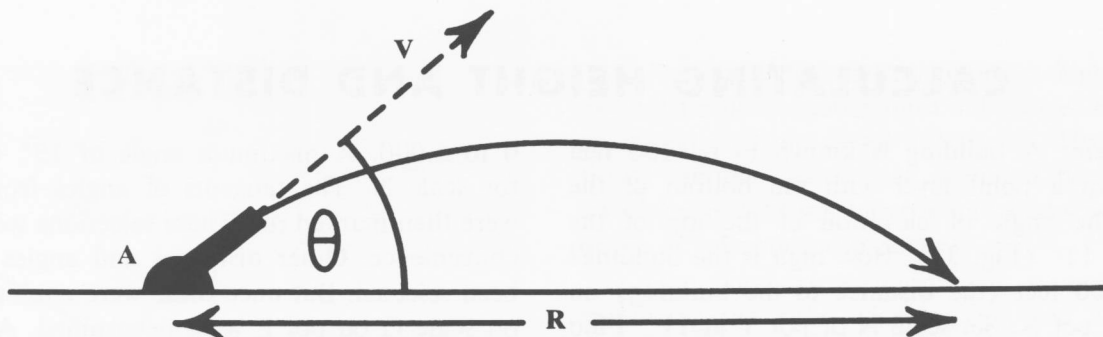

Fig. 29
Scales J, K, and L provide computations for the range (R) of a projectile. Fig. 29 shows the path of a projectile shot from a gun at A. The muzzle velocity (leaving the gun) of the projectile is V. The angle at which the gun is pointed upward from the ground is θ (the Greek letter "theta"). These two quantities determine the *range* (horizontal distance traveled by the projectile on level ground).